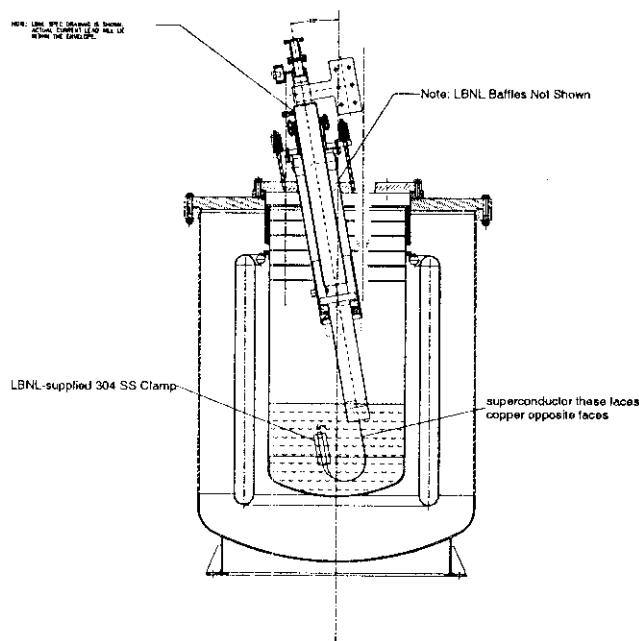

Figure 4.3a Side View of Lead in Cryostat with the LTS cables connected.
4.3 Make connection to LTS pigtailed. The joint is a mechanical connection with a stainless steel clamp block (supplied by LBNL) and indium foil between the cables to ensure good electrical contact. Torque each of the clamp block fasteners to **10 ft-lbf**. Figure 4.3a shows a rendition of